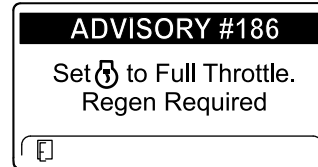

Figure 50
**Note:** If the engine exhaust temperature is too low, the InfoCenter displays ADVISORY #186 (Figure 50) to inform you to set the engine to full throttle (high idle).